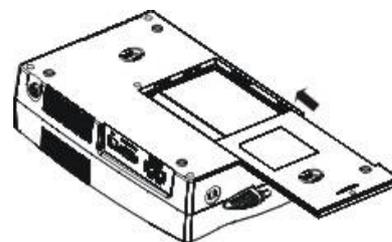

Figure 5
4. Slide the battery compartment cover back to the battery housing (please refer to Figure 5).